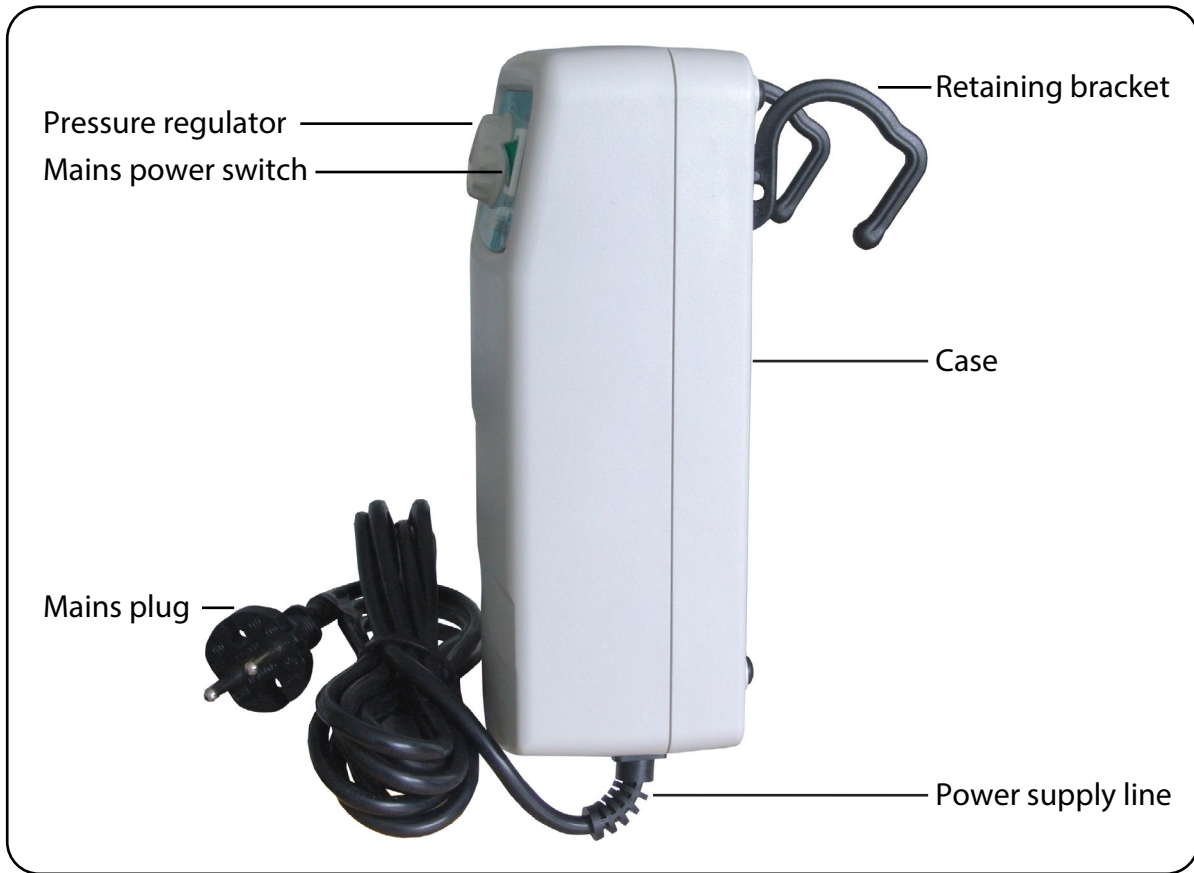
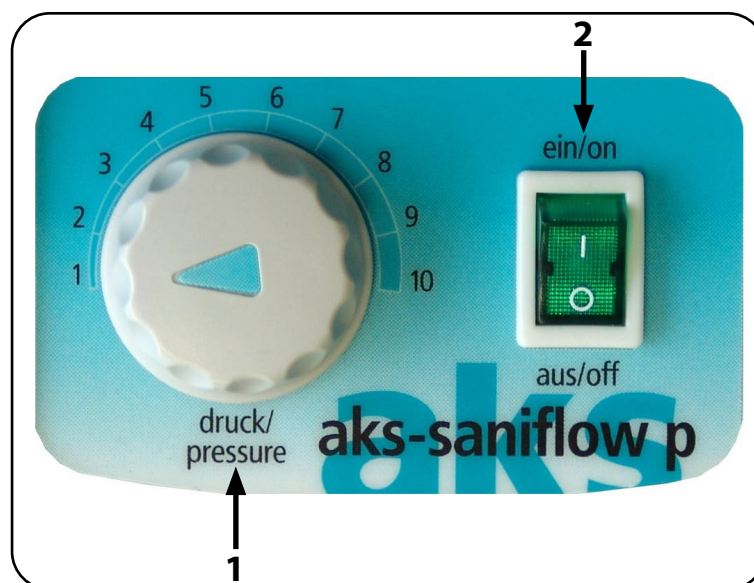
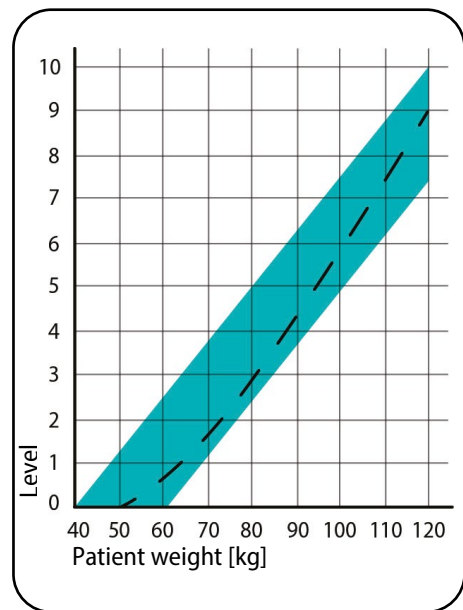

Fig. 5.01 - Side view of saniflow® p pump unit
Fig. 5.1.01 – Control panel for saniflow® p pump unit
Fig. 8.1.01 – Power level setting
The pressure regulator on the pump unit's control panel (Fig. 5.1.01) is used to adjust the filling pressure in relation to the patient's weight, using a diagram (Fig. 8.1.01) as a guideline. The pressure can be adjusted continuously in a scale range of 1 to 10 to the individual patient's weight or current load situation. An inspection of the patient and readjustment of the filling pressure, if necessary, ensures optimum adjustment to the patient's specific characteristics (see chapter on Operation/use, section **Normal operation**).
12. Check that the mains power switch (green) of the pump unit is set to "off" (0). The mains power switch is located on the front of the pump unit (Fig. 5.01 and Fig. 5.1.01).
1. Switch on the pump unit using the mains power switch (Fig. 5.01 and Fig. 5.1.01). The operation indicator lamp in the mains power switch lights up green.
2. Turn the pressure regulator (Fig. 5.1.01) to the scale value 1 so that the operating pressure in the alternating pressure mattress can build up.
7. Next, adjust the power level. The optimum power level depends on several factors. These primarily include the weight of the patient and the patient's support area. The diagram (Fig. 8.1.01) can provide an initial guide value for the setting. This value is only a guide value for approximate pressure setting and it is not a precise value for the yield behaviour of the body.
1. Switch off the pump unit using the mains power switch (Fig. 5.01 and Fig. 5.1.01) and disconnect it from the mains supply by unplugging the mains plug from the mains socket.
Mains power switch is not switched on	Switch on the mains power switch (indicator light in the mains power switch must light up) (Fig. 5.01 and Fig. 5.1.01)